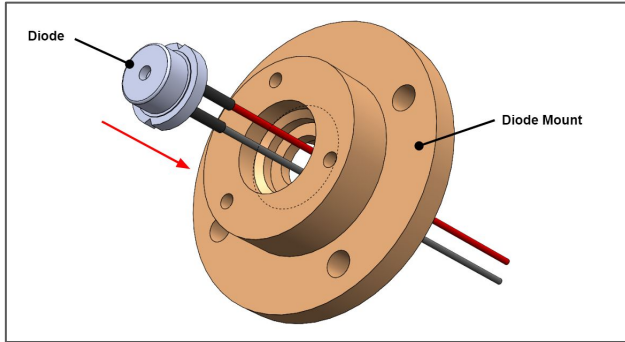

Figure 2. Diode Insertion
Once the laser diode is prepared with wire, insert the wire through the center of the Diode Mount (4), as shown in Figure 2.